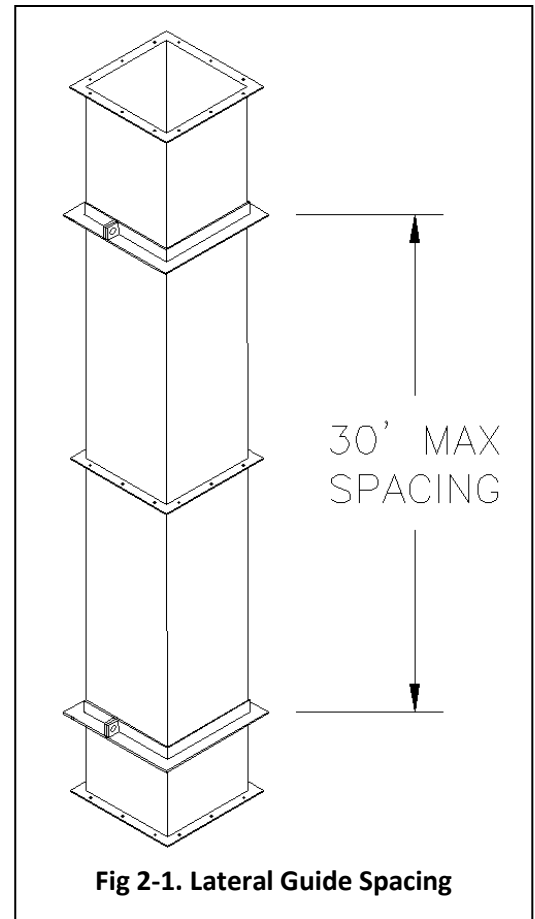

Fig 2-1. Lateral Guide Spacing
SWGD-R systems require guides to maintain proper alignment of the system and lateral support for wind loads. Refer to Table 2-3 & Fig. 2-1 (Dim B) for Lateral Guide Spacing.
Full angle supports, in conjunction with field fabricated support members from the FAS attached to the building or structure, are intended to laterally brace the vertical assembled duct lengths from wind loads and to also maintain alignment as the duct expands and contracts. The FAS is comprised of (2) halves and when bolted together is a slight clearance fit to the duct. Position the FAS away from draw bands & covers as to allow for the unrestricted expansion and contraction of the duct system. FAS's cannot be installed over draw bands. See Fig 2-1 & 2-2.